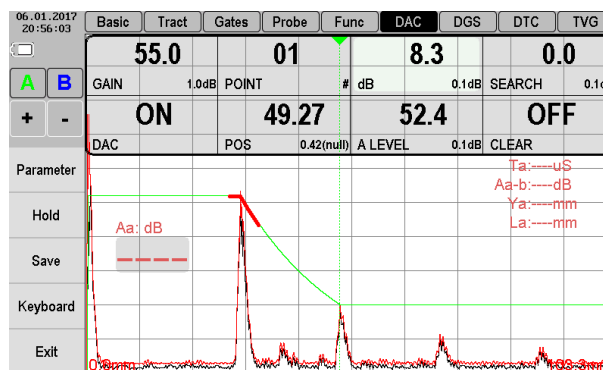

Figure 2.55 – Setting the damping for the second point signal
12. Set damping «dB» in a way, that DAC curve comes down to the level of the second signal peak (Figure 2.55).